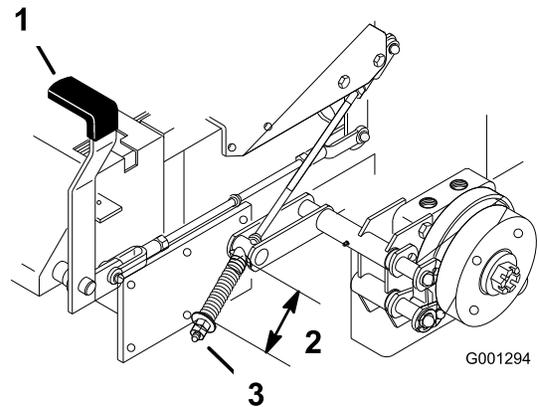

Figure 85
2. Measure the length of the spring (Figure 85).
3. If adjustment is necessary, disengage the parking brake, loosen the jam nut below the spring and adjust the nut directly below the spring (Figure 85).